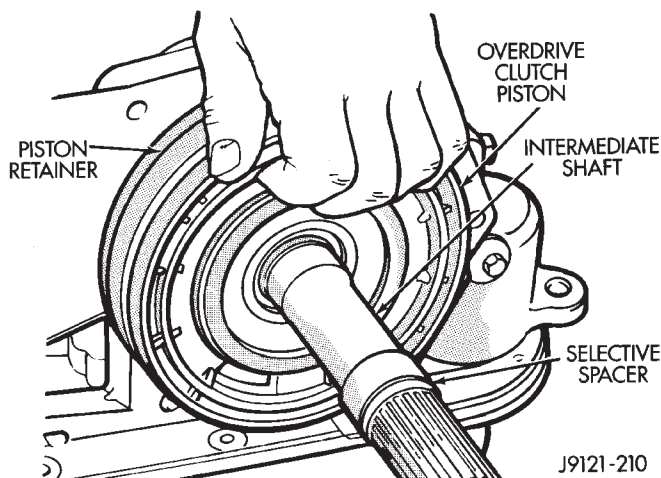

Fig. 7 Overdrive Piston Removal
- (12) Remove overdrive piston from retainer (Fig. 7).